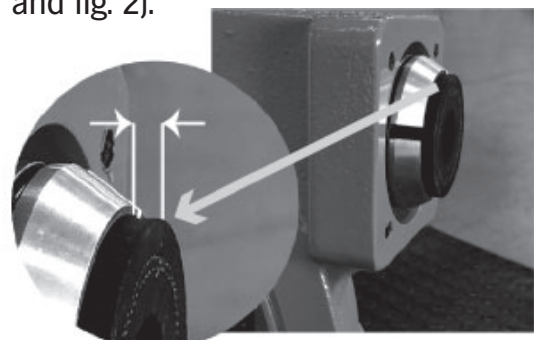

Fig. 1
6. Lay the press rings. Between the end of the hose and the press ring, there must be a specific distance (see fig. 1 and fig. 2).
| Pump model | Approximate distance outside press ring (Fig. 1) |